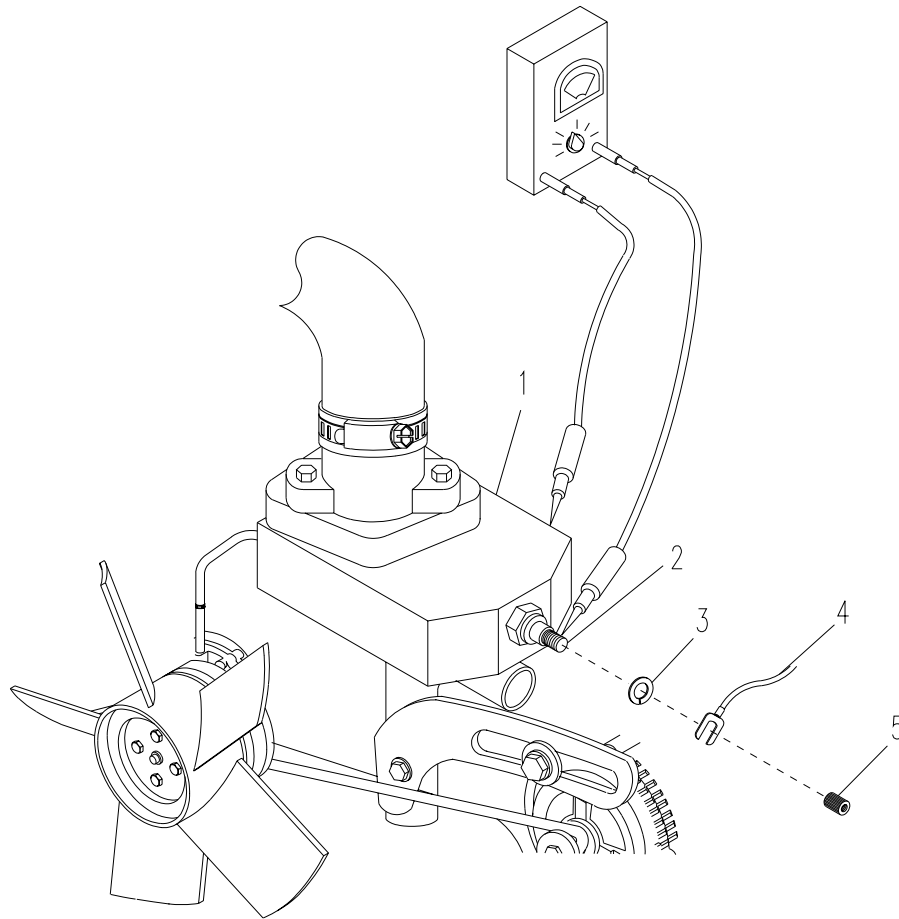

Figure 4-12. Temperature Sender
- a. Remove cap (5, Figure 4-12) and tag electrical lead (4).
- b. Remove electrical lead (4) and lock washer (3) from sender (2).
- c. Start APU (para 2.5.) and monitor resistance to ground from terminal on sender. As engine heats up, resistance should decrease to 72.3 ± 4.3 ohms. If not, replace sender (2).
- b. Remove cap (5, Figure 4-12, Sheet 2) and tag electrical lead (4).
- c. Remove electrical lead (4) and lock washer (3).
- d. Remove temperature sender (2) from temperature sender mounting block (1) by turning counter clockwise (ccw).
- f. Install new sender (2) in temperature sender mounting block (1).
- g. Install lock washer (3), electrical lead (4), and cap (5) on temperature sender terminal (2). Remove tag.